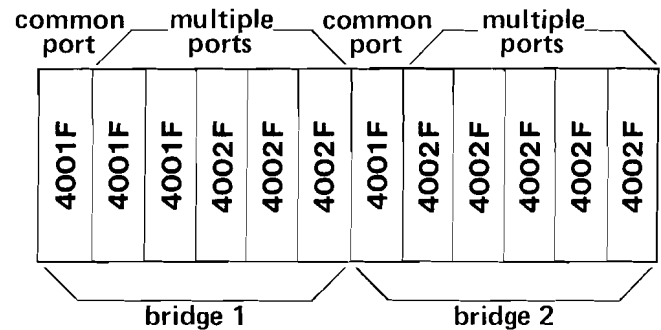

figure 2. Module arrangement for 2 resistive data bridges
2.02 The primary application of the 4001F/02F is in the Tellabs 246 Resistive Data Bridge System, where it provides an active interface between the external 4wire facility and the passive fixed-loss data bridge. Figure 2 shows a typical configuration for two 4wire 6way fixed-loss data bridges. See the Tellabs practice on the 246 System for complete information.